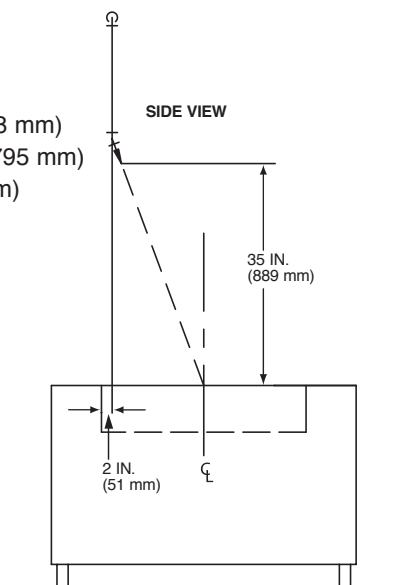

FIGURE 4-87
- Nozzle Spacing:** See Figure 4-87. 11 1/2 in. (292 mm) maximum from end of fryer and 25 1/2 in. (647 mm) maximum on centers